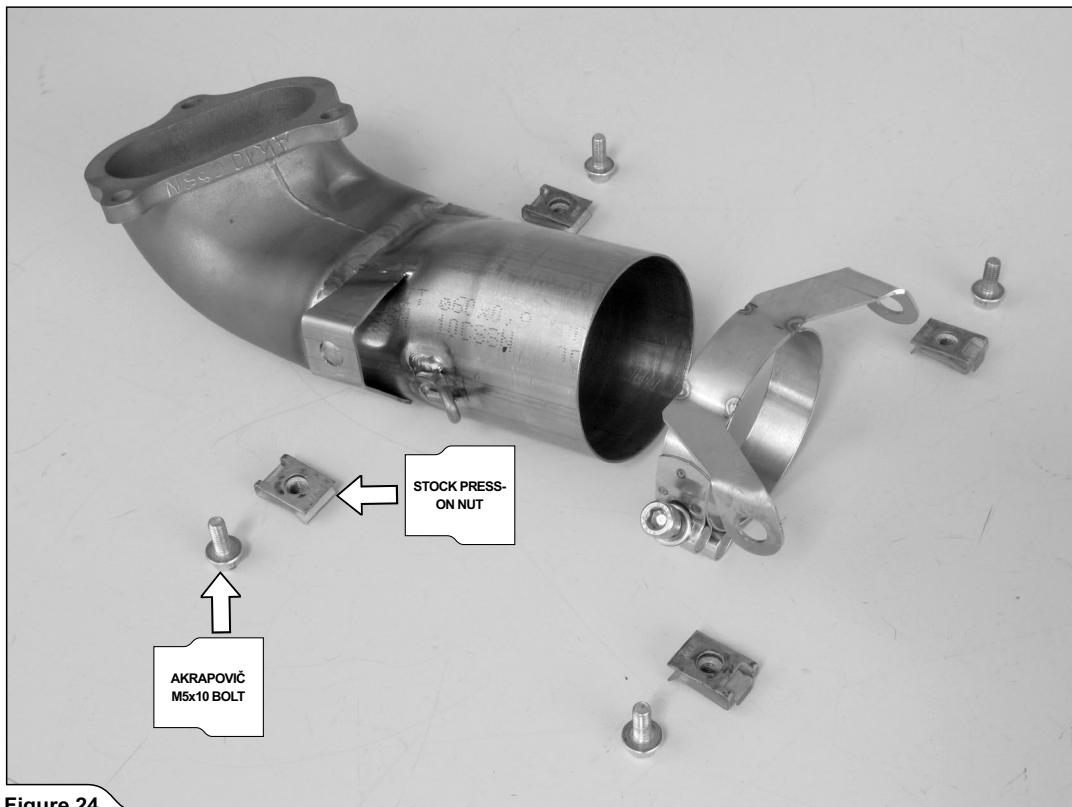

Figure 24
- Assemble the stock heat shields onto the front header pipe, using stock press-on nuts and additional clamp and bolts from Akrapovič installation kit; attach the spring as shown (Figure 24, 25).